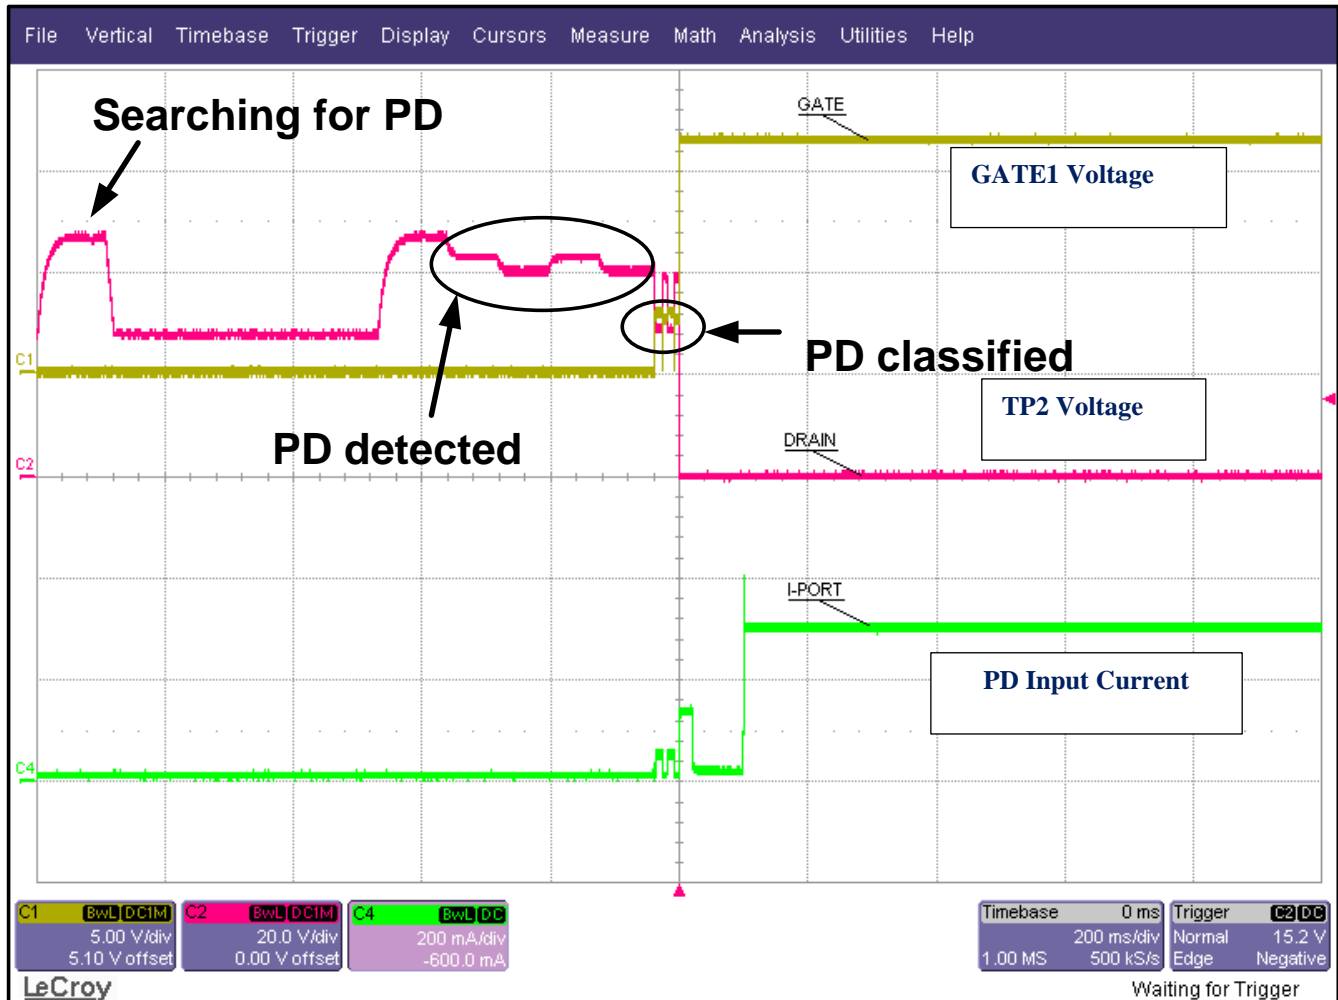

Figure 4 Start Up type 2 PD load
- Figure 4 shows typical start up behavior for a type 2 PD. TPS23861 automatically performs four point detection, two-event physical classification of type 2 PDs, and inrush protected power ramp up.